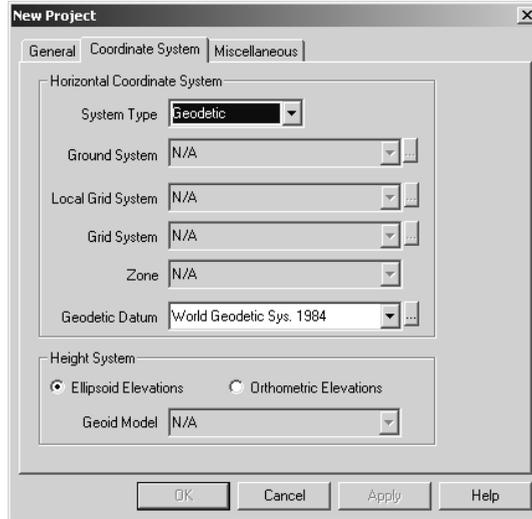

Figure 3.3. New Project Dialog Box — Coordinate System Tab
- Click on **Coordinate System** to switch to the **Coordinate System** tab, Figure 3.3.